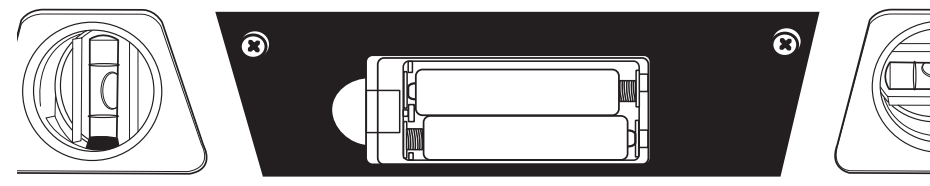

Fig. 4
BATTERY INSTALLATION (Fig. 4)
1. Open the battery cover, located in the middle of the back of the level (see Fig. 4).